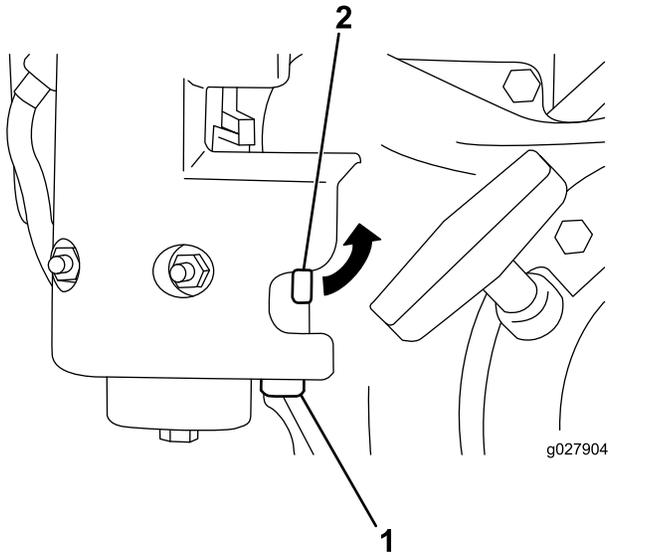

Figure 35
1. Close the fuel-shutoff valve and unscrew the sediment bowl from the carburetor body (Figure 35).